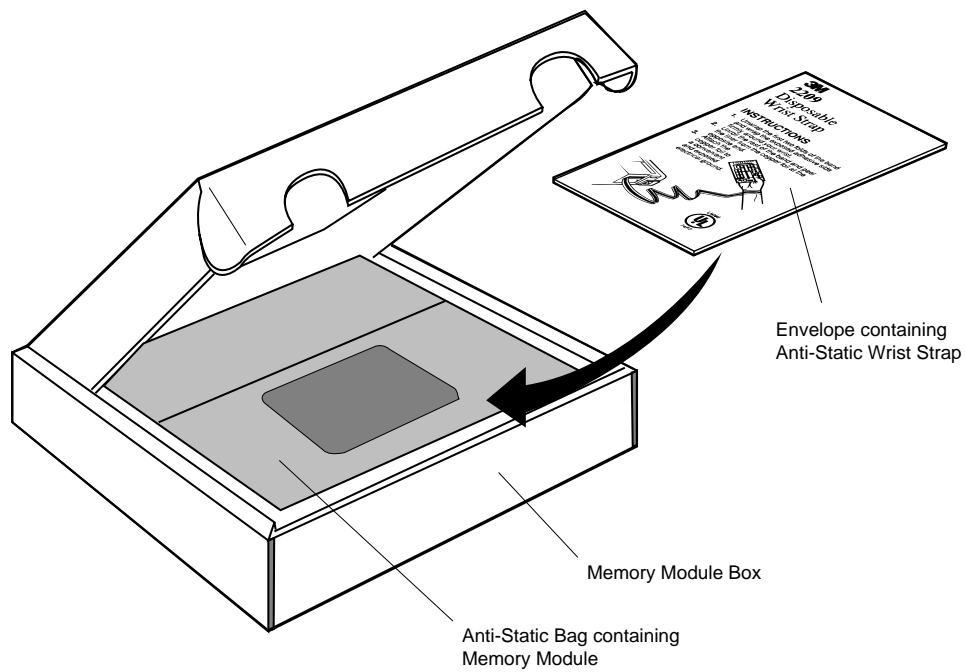

Figure 4-40 Antistatic Wrist Strap
8. Use the antistatic wrist strap shown in Figure 4-40